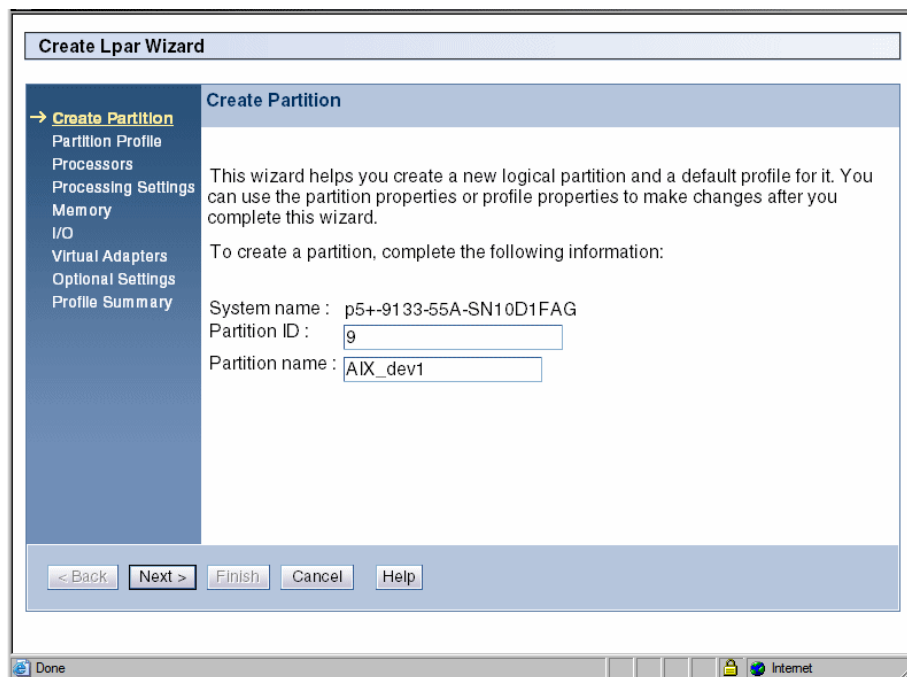

Figure 7-9 Create an AIX partition
1. Select **Configuration** → **Create Logical Partition** → **AIX or Linux** to open the window shown in Figure 7-9. Here you can set the partition ID and specify the partition's name. Then, select **Next**.